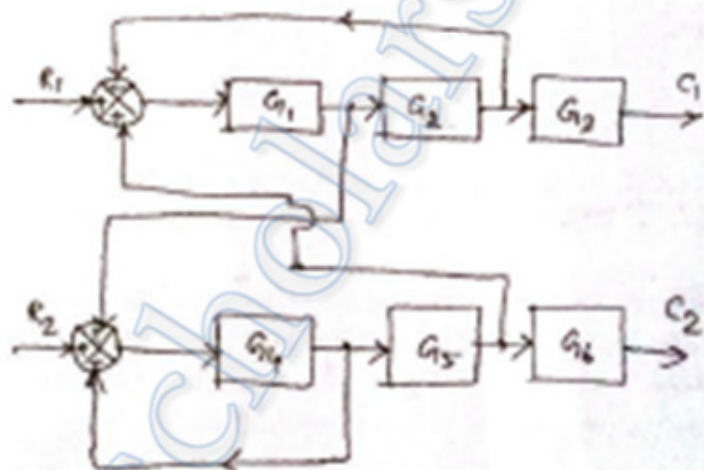

Figure 4
- (ii) Find the value of $\frac{C_2}{R_2}$ for a system whose block diagram is shown in Figure 4, using block diagram reduction technique (8)